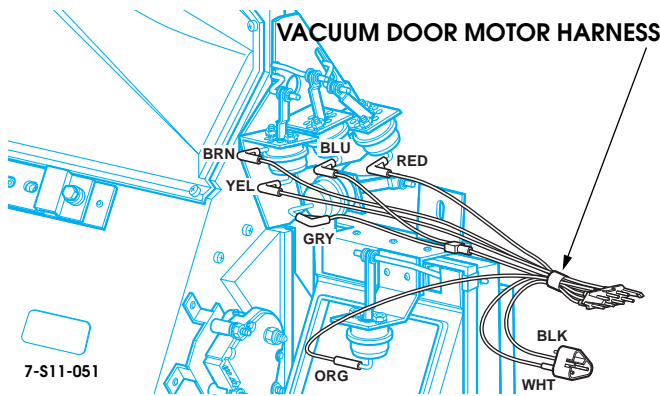

Figure 11-73: Vacuum Door Motor Harness
4. Disconnect vacuum harness from vacuum motors. Motors are color coded to vacuum tubing (Figure 11-73).